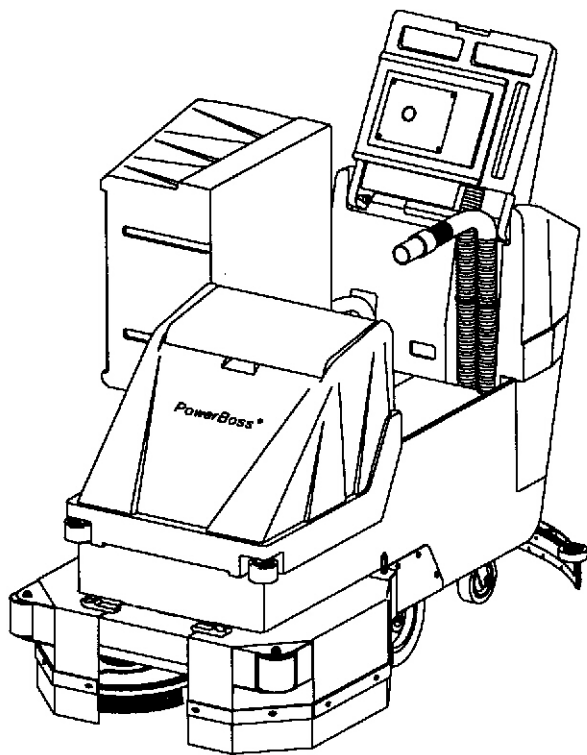

Figure 1
1. Raise tank assembly by raising rear cover and disconnecting vacuum recovery hose, Figure 1.